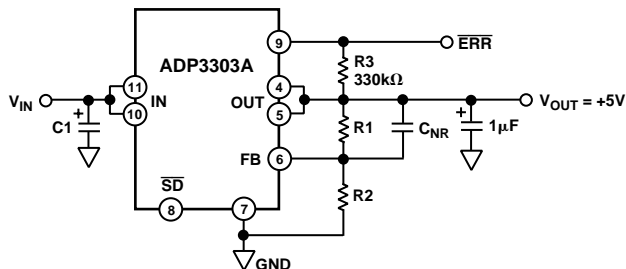

Figure 21. Noise Reduction Circuit
**Noise Reduction Capacitor (CNR):** to reduce the ADP3303A's low output noise by 6 dB–10 dB, a noise gain limiting capacitor can be connected between the feedback (FB) pin (Pin 6) and the OUT pins as shown in Figure 21. Low leakage capacitors in the 100 pF–500 pF range provide the best performance. Larger capacitors will slow down the output transient response. CNR is not needed in low noise applications where fast load transients are not expected.
The proprietary thermal coastline TSSOP-14 package of the ADP3303A, in conjunction with the recommended PCB layout shown in Figure 21, yields a thermal resistance of 96°C/W. As a result, the die temperature rise for the example circuit is: